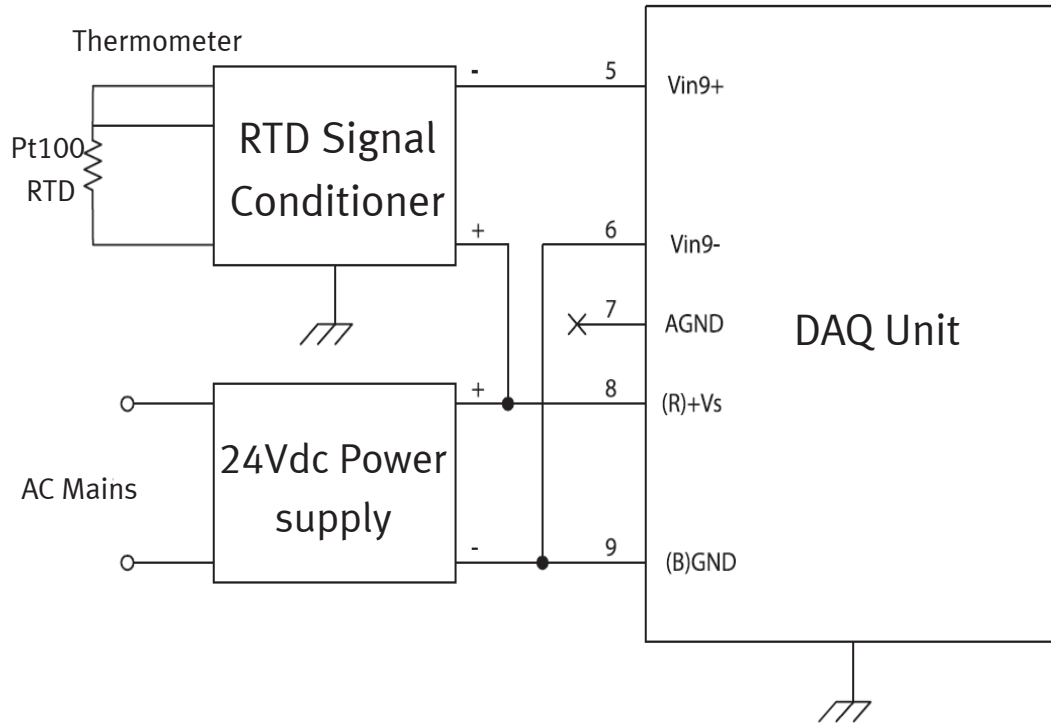

Figure 5: NDAS Schematic Diagram (Temperature Option).
- Ensure that the current loop configuration is wired properly between the DAQ unit and the RTD signal conditioner, as shown in Figure 5 and Table 3.